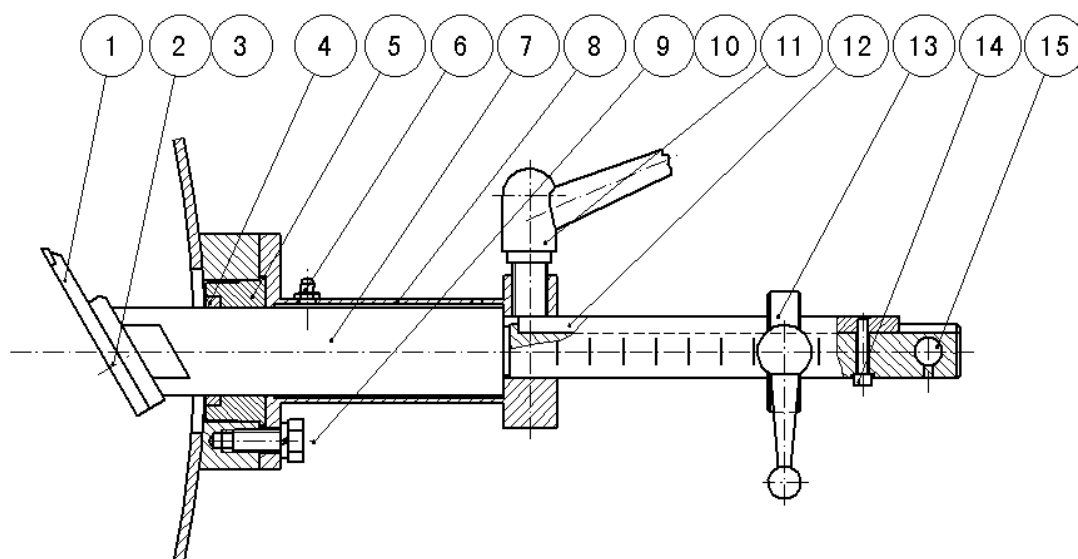

Figure 12
See Figure 12 for the structure and working principle of the pellet chamber. It mainly consists of a die, two rollers, deflectors, knives and screw for adjusting the clearance between die and rollers.
4.2.1 Knife Adjustment (See Figure 12)